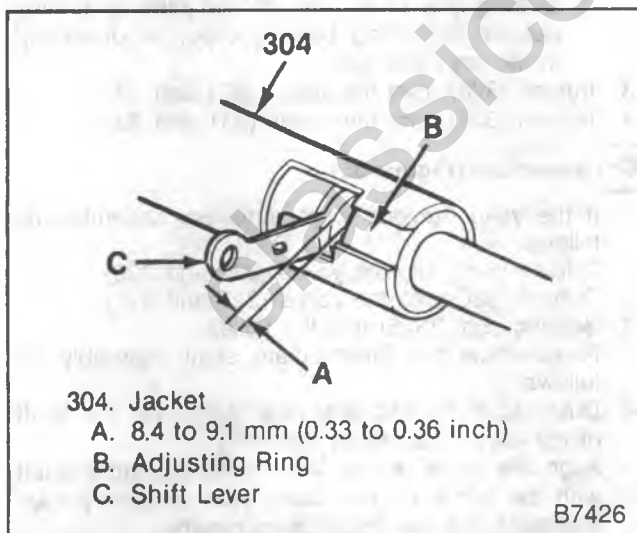

Figure 34—Shift Tube Adjustment — Automatic Transmission
2. Loosen the adjusting ring bolt (306).
3. Rotate the shift tube adjusting ring to obtain an 8.4 to 9.1 mm (0.33 to 0.35-inch) clearance between the shift tube lever and adjusting ring (figure 34).